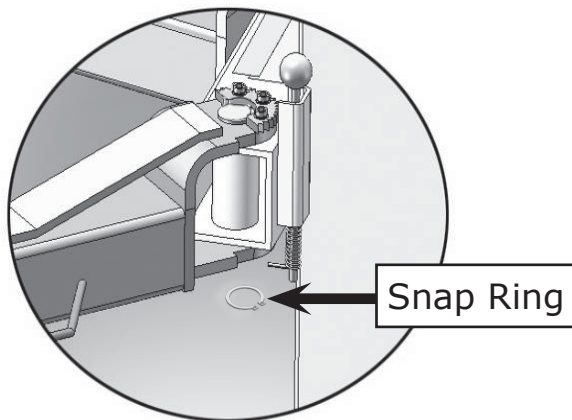

Fig. 22
1. Install the lifting arms (See Fig. 22).